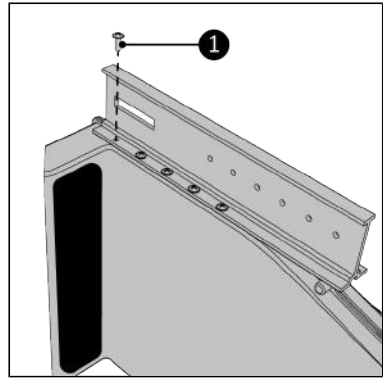

Figure 61.
- Screw the main rail to the Way-out using the ten 3,5 x 10 mm screws (Figure 61, pos. 1). Make sure all screw holes match up.